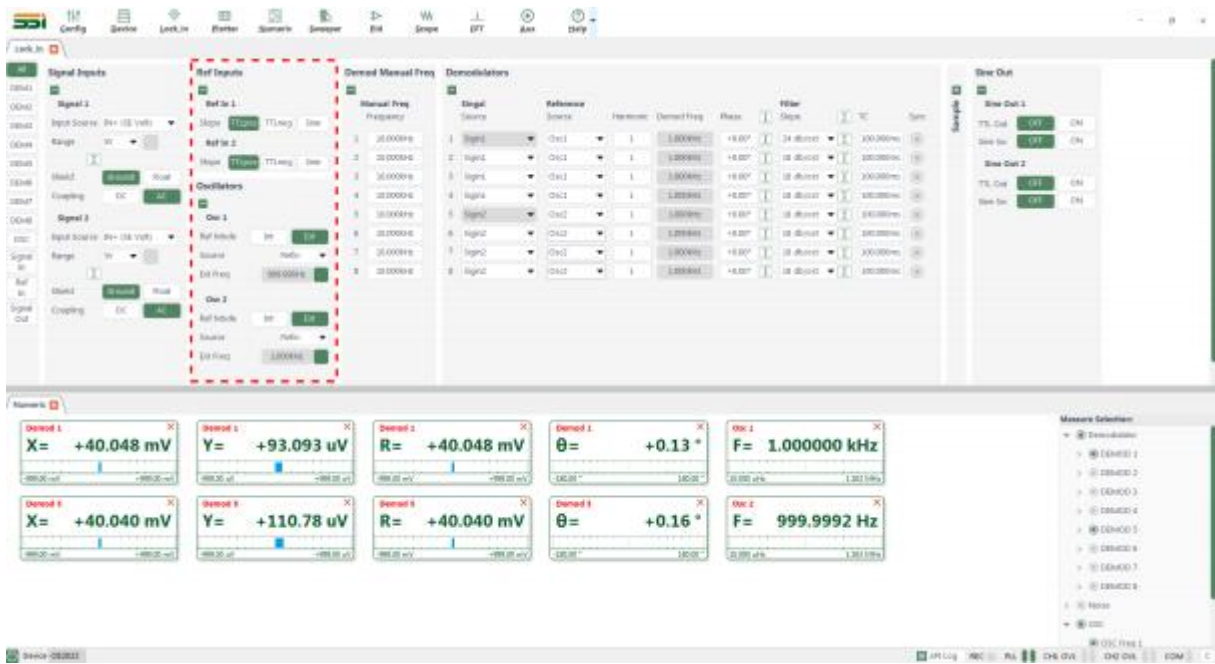
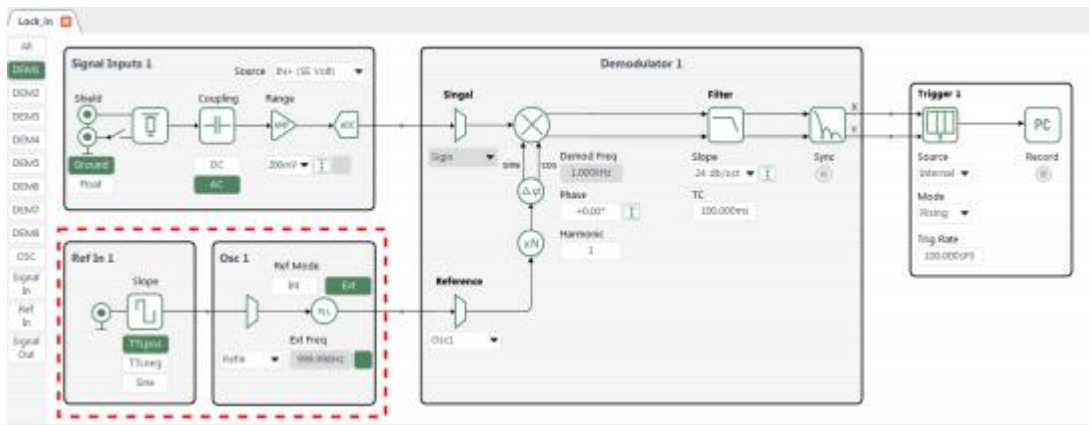

Figure 33. Reference Signal Configuration Diagram
Figure 34. Reference Signal Configuration Area in Process Flow Diagram
2. According to the configuration in Table 2, select the reference signal source type and external reference in the reference signal configuration area, with other options left default, as shown in Figure 33 and Figure 34. Choose one of the methods to make modifications.